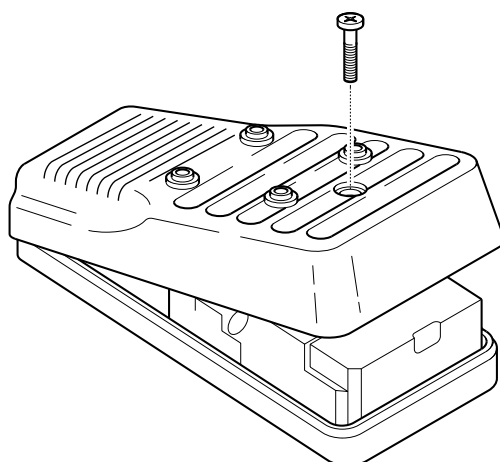

Figure 19: handsfree cover removal
2. Figure 19 Remove the front cover from the handsfree assembly by removing the cover securing screw and disconnecting the speaker leads from the handsfree C